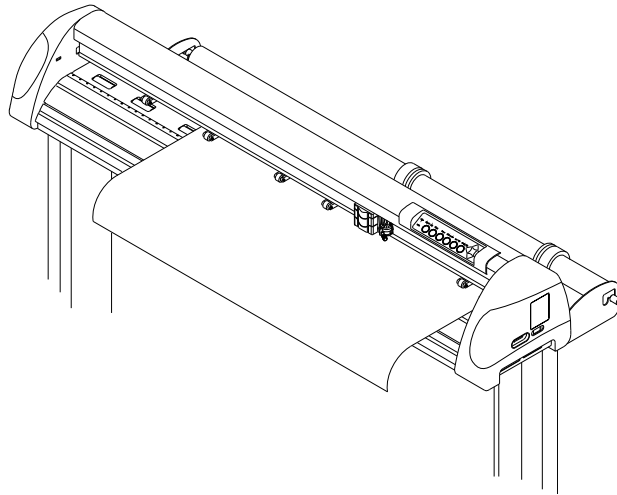

Figure 4-8
3. Loading the media on the platen. After loading the roll media, flatten the media on the platen and hold the front edge of the roll media firmly.(Figure 4-8)